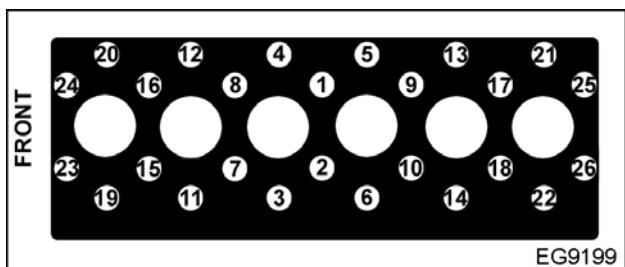

Figure 162 Cylinder head bolt tightening sequence
3. Tighten each cylinder head bolt (long and short) to 136 N·m (100 lbf-ft) in cylinder head bolt tightening sequence (Figure 162).
4. Tighten each cylinder head bolt (long and short) to 177 N·m (130 lbf-ft) in cylinder head bolt tightening sequence (Figure 162).
7. Tighten each cylinder head bolt (long and short) by rotate each bolt 90 degrees (1/4 turn) in cylinder head bolt tightening sequence (Figure 162).